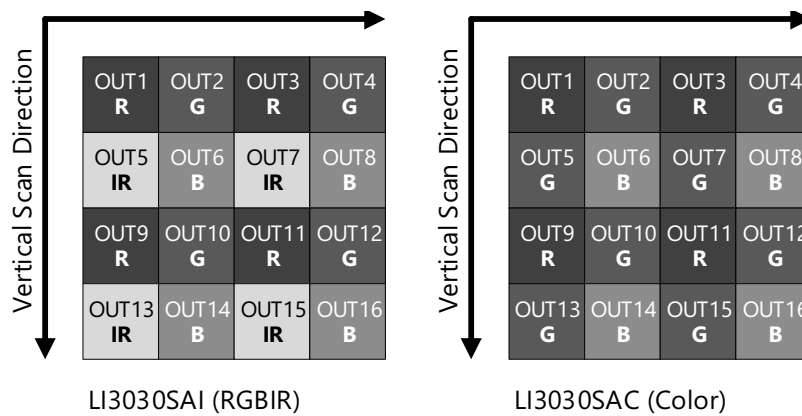

Figure 3-2. Pixel Color Filter Arrangement
*Figure 3-2 is RGBIR sensor (LI3030SAI) and Color sensor (LI3030SAC) version. Color filters are not installed in Monochrome sensor (LI3030SAM).